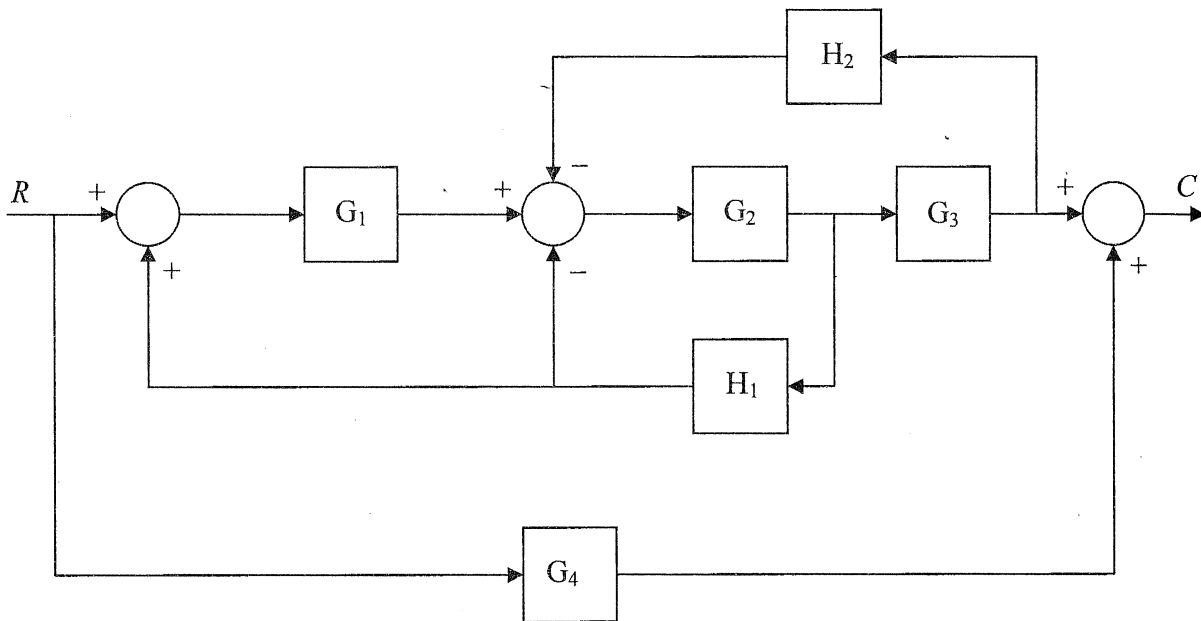

Figure 06
- (8.2) Reduce the block diagram given in figure 06 to open loop form. You are required to show all important steps in solving question 8.2.
- (8.3) Develop a signal flow graph for the block diagram in figure 06.